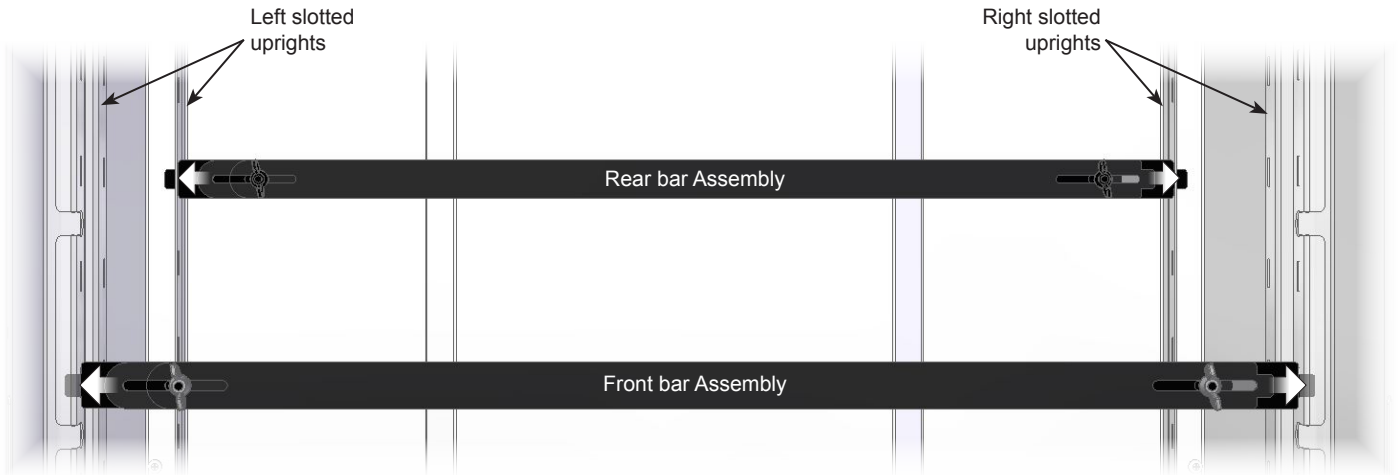

Figure 2
1. Determine the approximate location (height) you would like the module to be mounted. The rear bar is (2) slots higher than the front.
2. Insert one tab into a slot in the left slotted upright. **Figure 2.**
4. Lock the extended position of the bars by securely tightening the (2) wingnuts. Be sure both wingnuts are tight.